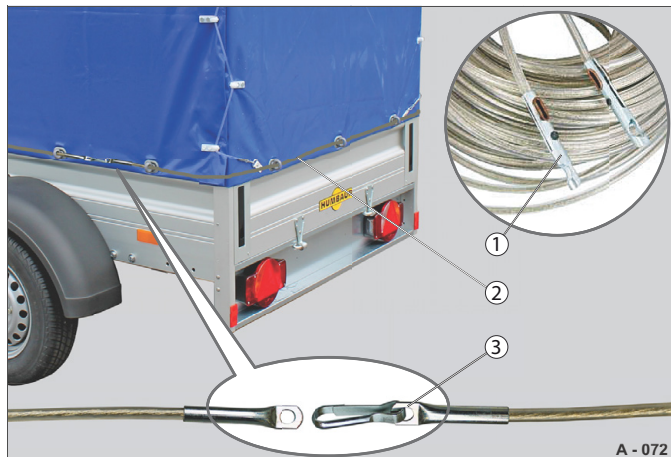

Fig. 81 Fastening rope as anti-theft device
- Feed the fastening rope (Fig. 81 /2) through all closed staples.
- Connect the two rope end fasteners (Fig. 81 /1) to each other.